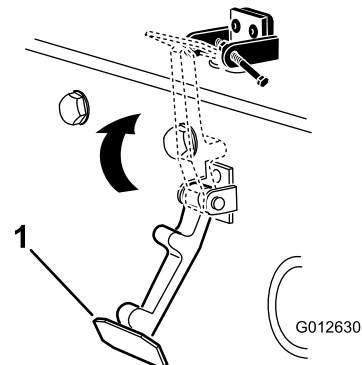

Figure 9
7. Hook the latch onto the hood-latch bracket (Figure 9).